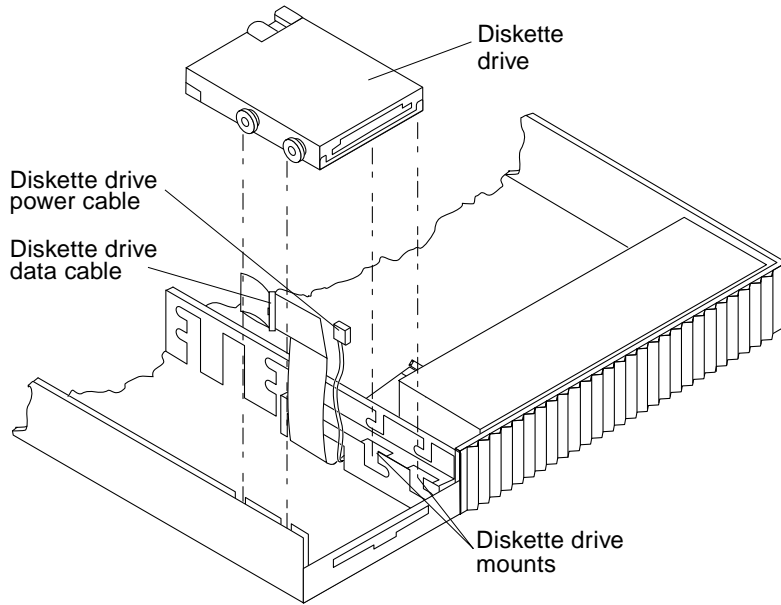

FIGURE 9-13 Removing the Diskette Drive
- 9. Lift the diskette drive from the chassis; place the diskette drive on an antistatic surface (FIGURE 9-13).**
- 10. Remove the Phillips screws and grommets; set screws and grommets aside (FIGURE 9-13).**